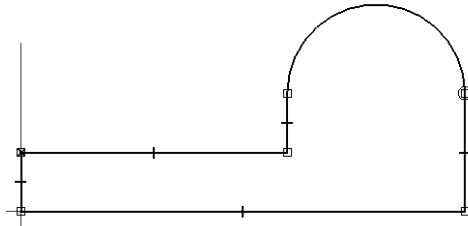

Figure 2-41 Outer loop of the profile for Tutorial 3
12. Click to specify the endpoint of the line when the endpoint relationship handle is displayed. The profile after drawing the outer loop is displayed in Figure 2-41.